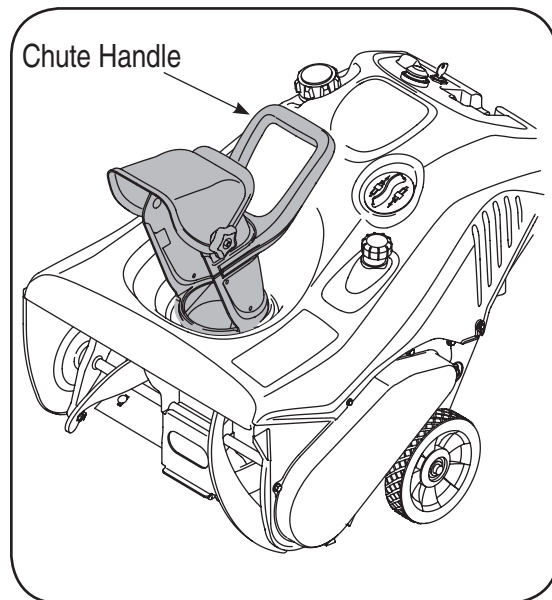

Figure 3-3
3. Re-secure with the hardware just removed. If installed correctly, your snow thrower should look like Figure 3-3.